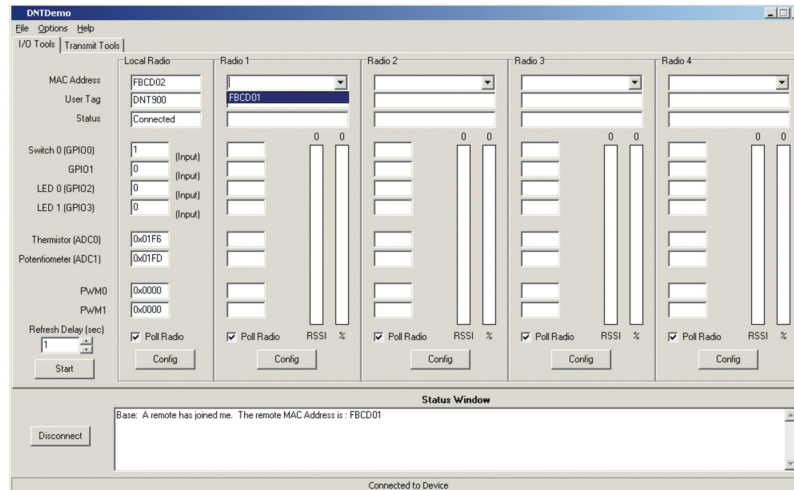

Figure 7
9. At this point the Demo will collect data from the Base, filling in data in the Local Radio column on the Demo window as shown in Figure 7. The Status Window should also show that the Remote has joined the Base. Click on the drop down box at the top of the Radio 1 column and select the MAC Address for the Remote. Next press the Start button using the default 1 s Refresh Delay.